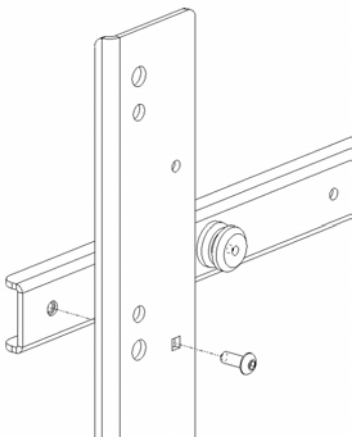
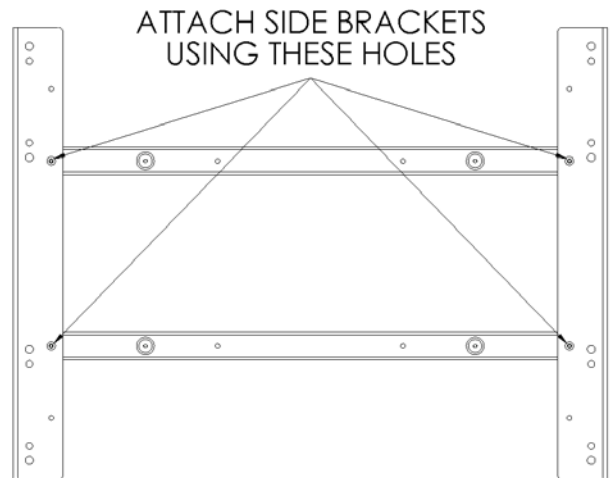

Figure 6
Figure 7
4. **Side Bracket Assembly:** Attach center brackets to side brackets using the 10-24 button head cap screws (see Figure 6 and Figure 7).